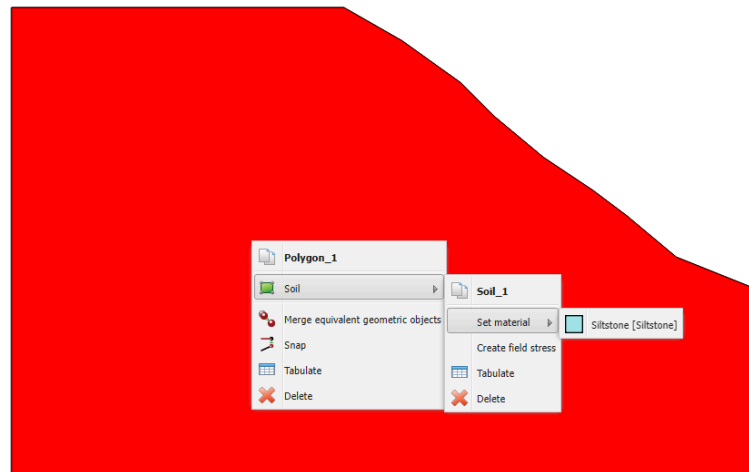

Figure 4–2: Assigning soil material to the created polygon
- 3 Select the created polygon and assign the Material to the soil polygon as shown in Figure 4–2 \(p. 75\).